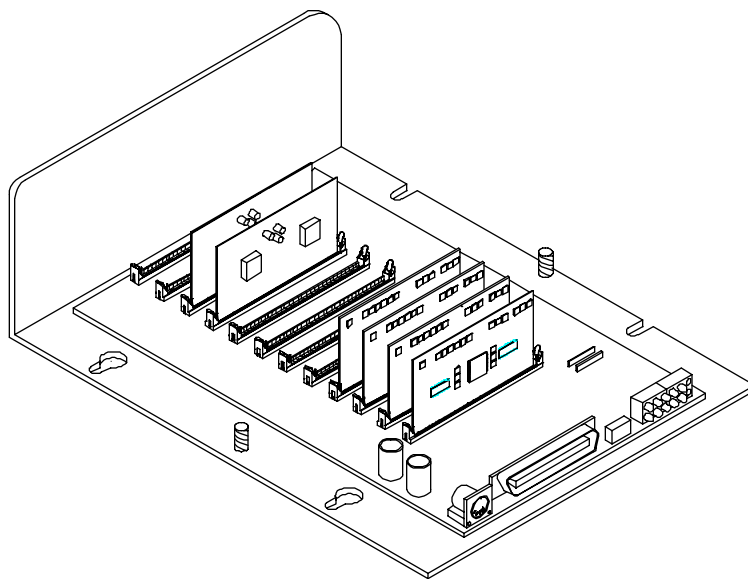

Figure 13 EDAC Configured for Four Ports with Relays
- g. Repeat this procedure for all port and relay cards to be installed. Refer to Figure 13 for an example of 4-port installation with relays.